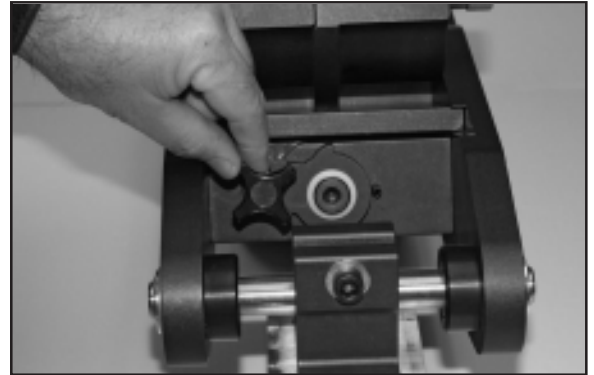

FIGURE 7
- 4 -Swing the Inking System Locking Assembly to the left (counter-clockwise) as shown in fig 7.